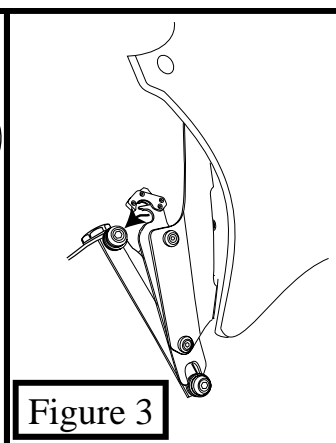

Figure 3
5. Slip the fairing mounting plates and fairing onto the upper and lower bushing assemblies, (see figure 3 and 5) and secure the left and right side locking mechanism.